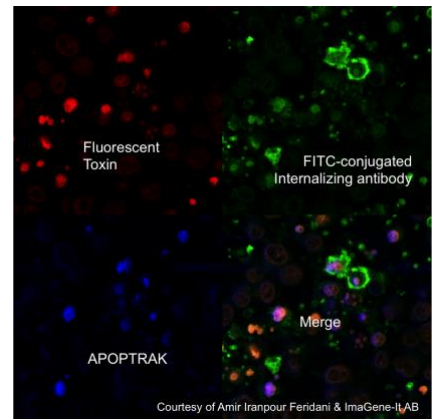

Figure 1. Cells treated with fluorescent toxin, and labeled with FITC-conjugated internalizing antibody in the presence of APOPTRAK™
**Fluorescence Microscopy:** APOPTRAK™ has not been validated for this, however red excitation (633 – 647 nm) and detection in the far-red (e.g. 670 LP or similar) would be recommended. (See example data, Fig. 1).